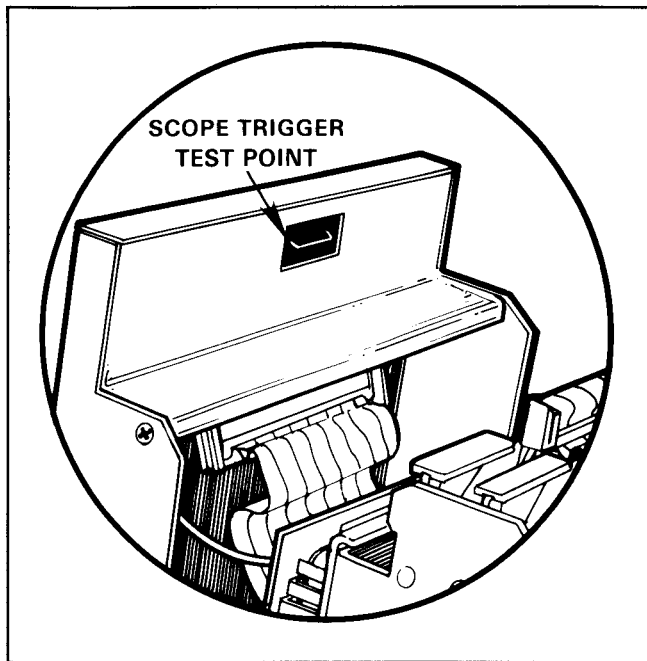

Figure 4-11. UniPak 2™ Scope Trigger Test Point
7. Trigger your oscilloscope by connecting to the test point under the top edge of the socket assembly (see figure 4-11).